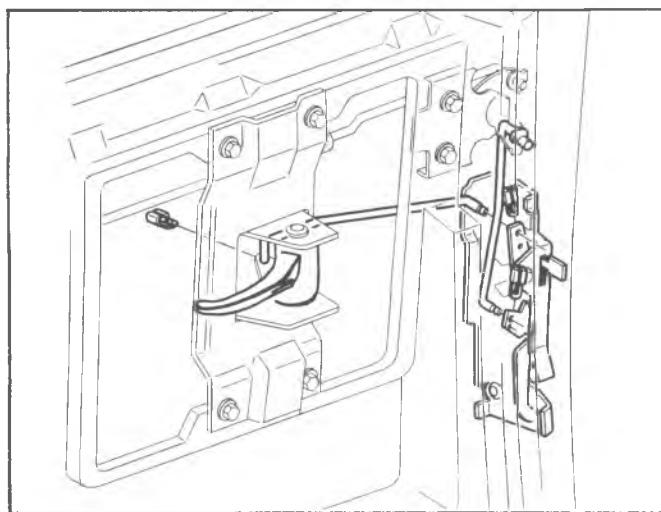

Fig. 41—Lock Assembly and Inside Handle
### Lock Assembly—Fig. 41
### Inside Handle—Fig. 41
2. Disconnect control rod from inside handle by removing clip as shown in figure 41.